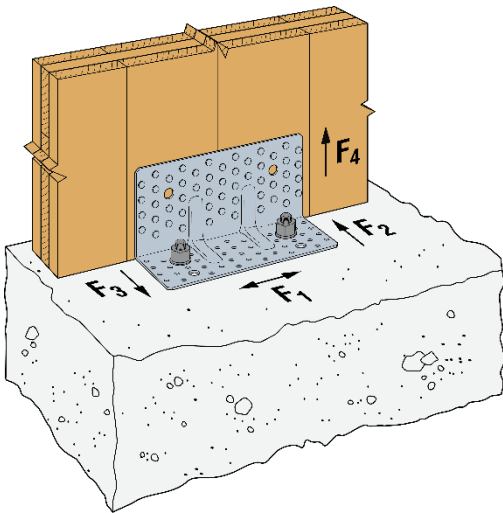

Figure 3: ABR255 – CLT to Concrete (Anchor Option 1)
(2) ¾" Bolt	(3) SDHR27400	705	360	860	1865
- For ABR255 anchor installation options, see Figure 3 and 4.